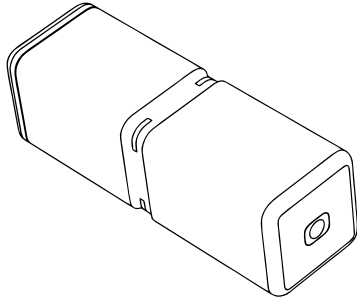

Figure 3A
3.1 Custos WWD Main Unit X1 (Figure 3A)